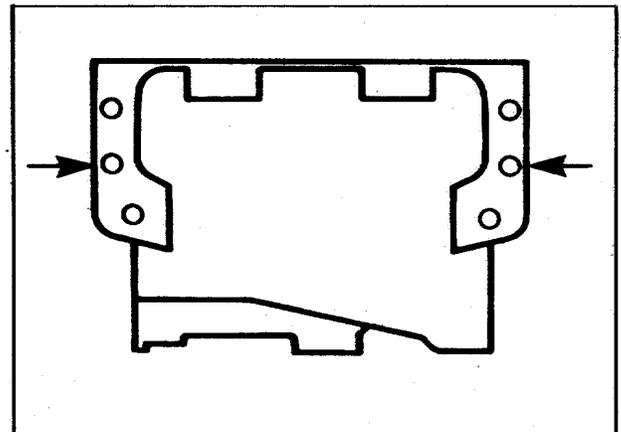

Fig. 14-62. Install Two Capscrews Into The Buttress End Of The Oil Pan.
- a. Install and tighten the middle capscrew in each of the two butresses on the flywheel housing, Fig. 14-62.